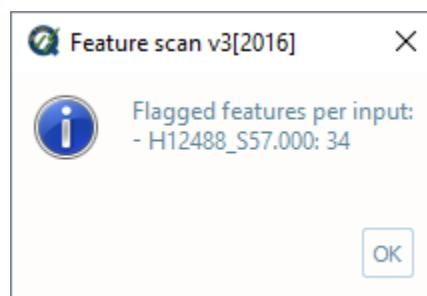

Fig. 2.61: Feature scan's output message.
- After computing, the output window opens automatically, and the results are shown (Fig. 2.61).